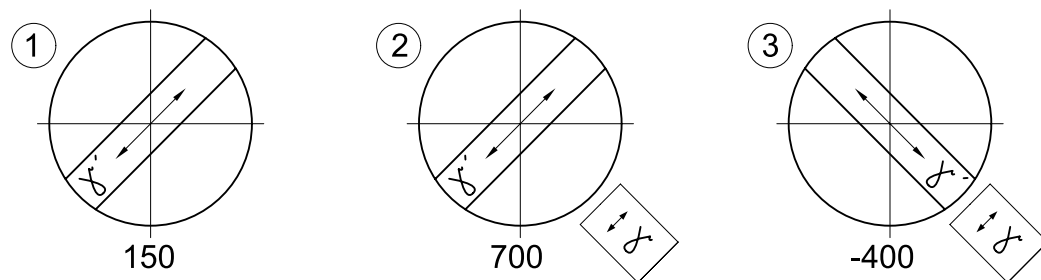

Fig. 4-123 Determining the vibration direction  $n_{\gamma'}$  by the example of a synthetic fiber
- Next, turn on the rotary stage Pol by 45°, until the longitudinal axis of the fiber is oriented NORTH-EAST (NE) – SOUTH-WEST (SW) (Fig. 4-123). In this position, the specimen shows the maximum brightness (diagonal position) and may appear in any color.